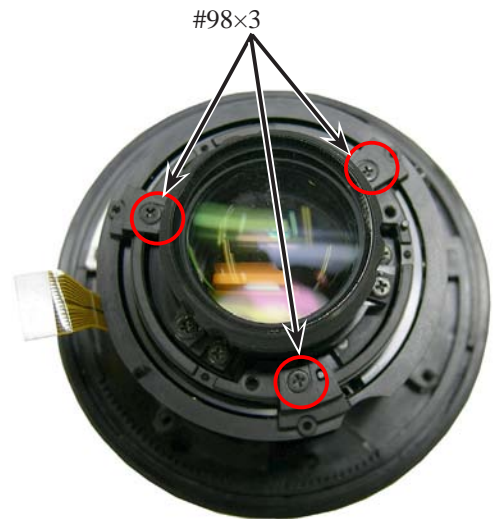

Fig.2
- Tighten three screws (#125). (Fig.2)
- ② Tighten three screws (#84). (Fig.2).
- ③ Rotate the cover ring in the direction of the arrow, and set to WIDE-end. (Fig.2)
- ② Rotate the focus sliding tube in the direction of the arrow, and stop it at the position where the coupled part of the focus key is positioned as shown in "Fig.2".
- ③ Tighten three screws (#98). (Fig.2)